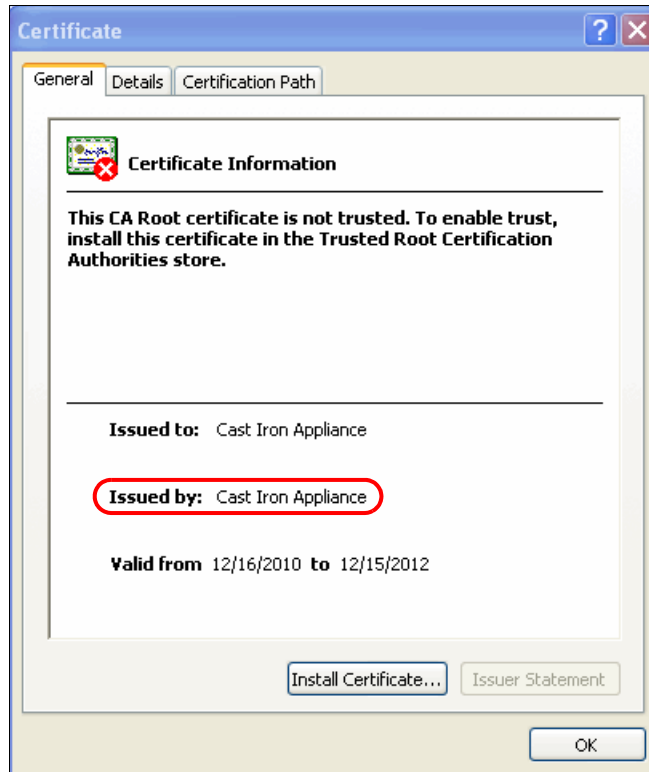

Figure 2-23 Certificate of the Integration Appliance
4. As indicated in Figure 2-23 on page 57, the Integration Appliance uses a self-signed certificate that was issued by Cast Iron Appliance to *Cast Iron Appliance*. As indicated by the “Valid from” date, the certificate is valid for two years from day of installation.